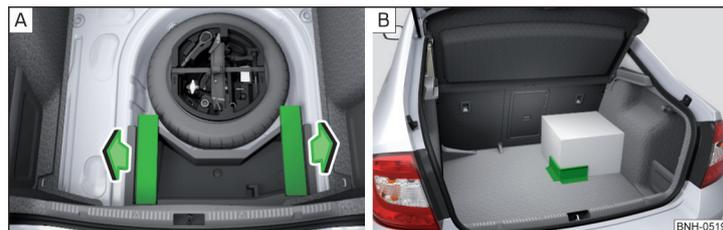

Fig. 81 Removing cargo elements / example on how to mount the load by means of the cargo element
- Remove the cargo elements in direction of arrow » Fig. 81 - **A**.
- Secure the cargo element with Velcro on the floor covering of the luggage compartment » Fig. 81 - **B**.